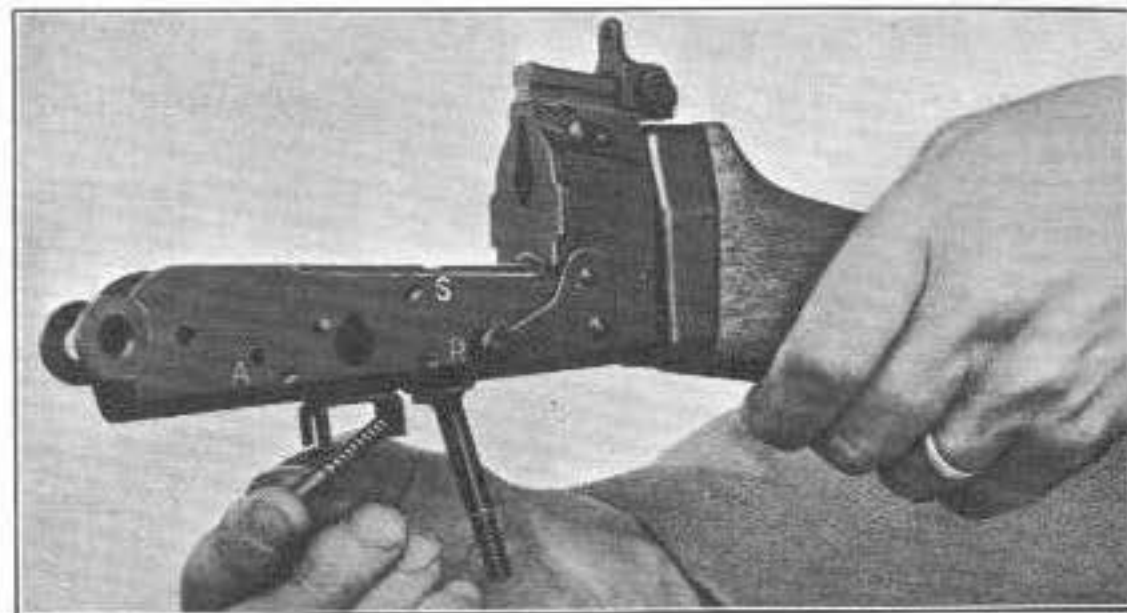

Fig. 107
g) **Trigger spring.** — With finger press the trigger plunger to the rear (this will compress the trigger spring) and rotate it downwards (fig. 107).